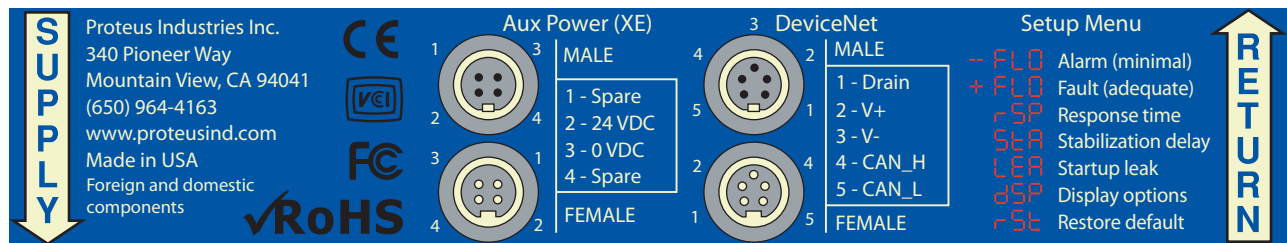

Figure 3: Wiring and electrical connection diagrams for the WS2G WeldSaver
1. Refer to Figure 3 on Page 23 for dimensions and fastening locations.
1. Refer to Figure 3 above to identify the 24 VDC power interface connections.
2. Refer to Figure 3 above to identify the DeviceNet power interface connections.